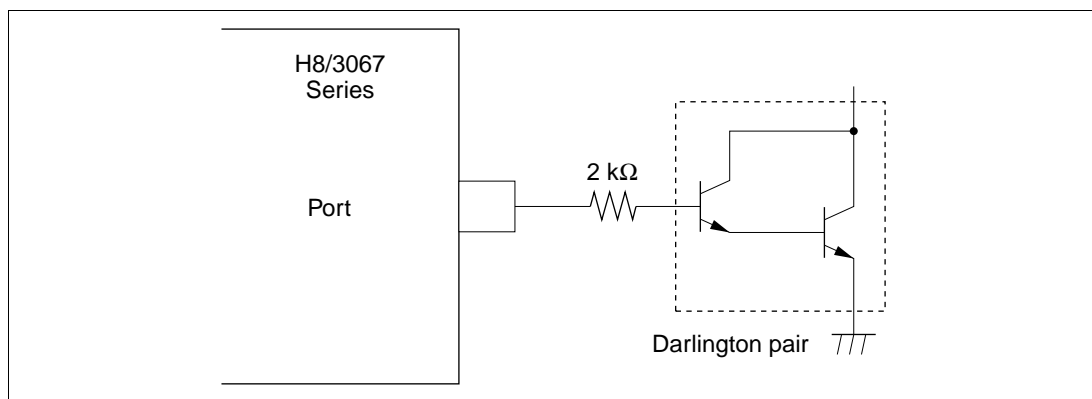

Figure 21.4 Darlington Pair Drive Circuit (Example)
2. When driving a darlington pair, always insert a current-limiting resistor in the output line, as shown in figures 21.4 and 21.5.